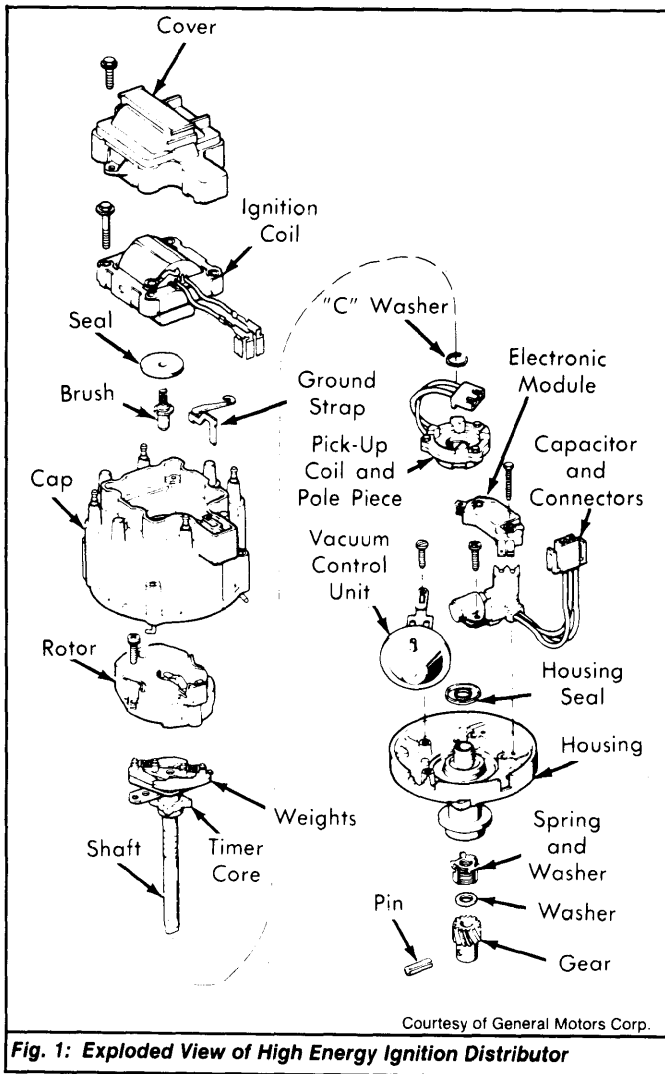

Fig. 1: Exploded View of High Energy Ignition Distributor
The Delco-Remy High Energy Ignition (HEI) system consists of a distributor assembly which combines all ignition components into a solid-state electronic unit. The distributor housing contains the vacuum and centrifugal advance mechanisms, electronic module, pick-up coil, pole piece (with internal teeth), timer core (with external teeth), rotor, distributor shaft and a capacitor for radio noise suppression. Ignition coil is enclosed in distributor cap. See Fig. 1.
3) Remove 2 attaching screws holding module to housing and position module to disconnect pick-up coil and wiring harness connectors. Remove washer from upper end of distributor housing, 3 screws securing pole piece to housing. Remove pole piece, magnet and pick-up coil. Remove lock ring at top of housing, pick-up coil retainer, shim and felt washer. See Fig. 1.